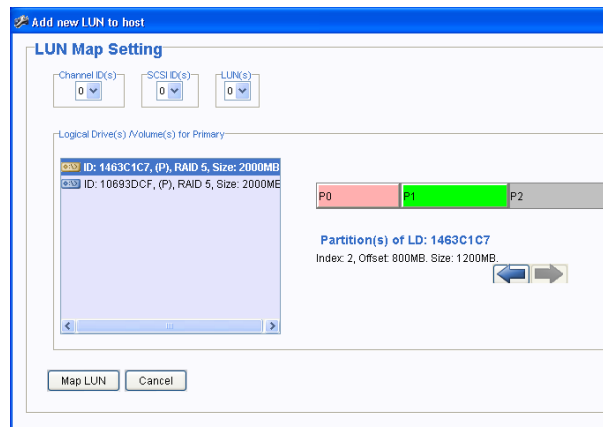

Fig. 10.5 Select Add New LUN to Host
4. Select a Logical Drive or Logical Volume with a single mouse-click. With a single mouse-click on the Partition color bar, select one of the partitions that you wish to associate with the selected channel ID/LUN number. See *Figure 10.5* for the configuration screen.